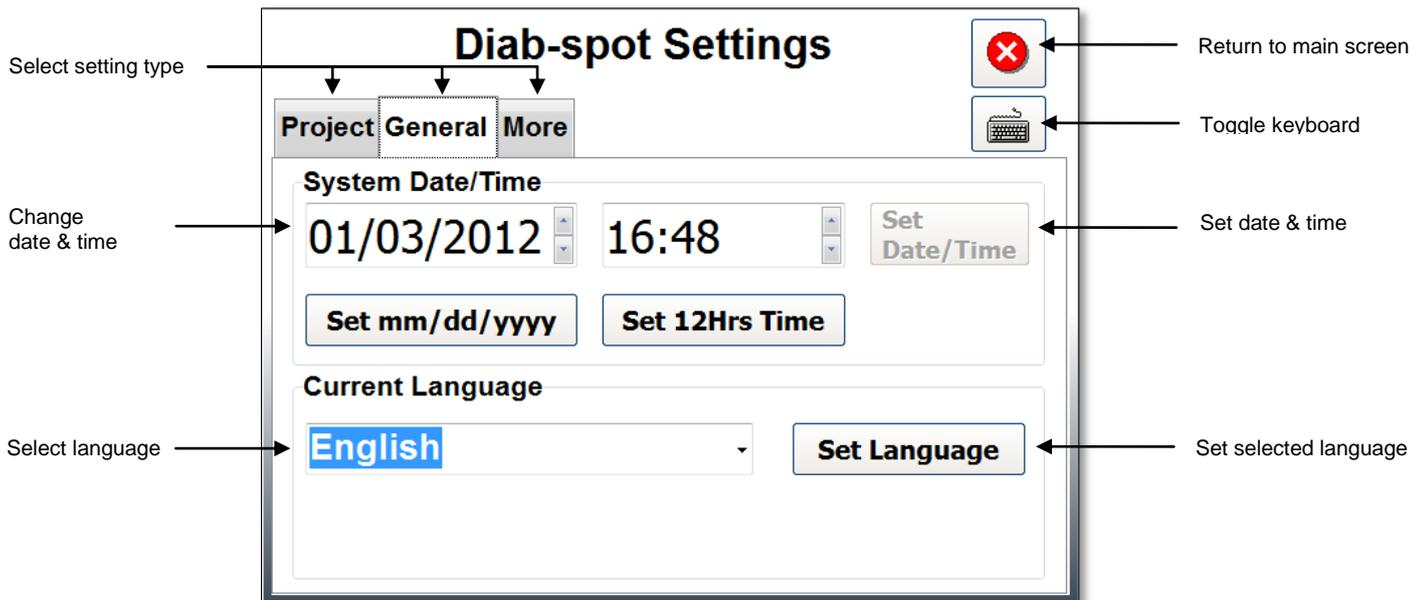

Figure 10. Diab-spot General settings screen
2. *General settings*, these set the date, time, printer and language (figure 10).
By selecting the 'general settings' tab, the menu will appear (figure 10).